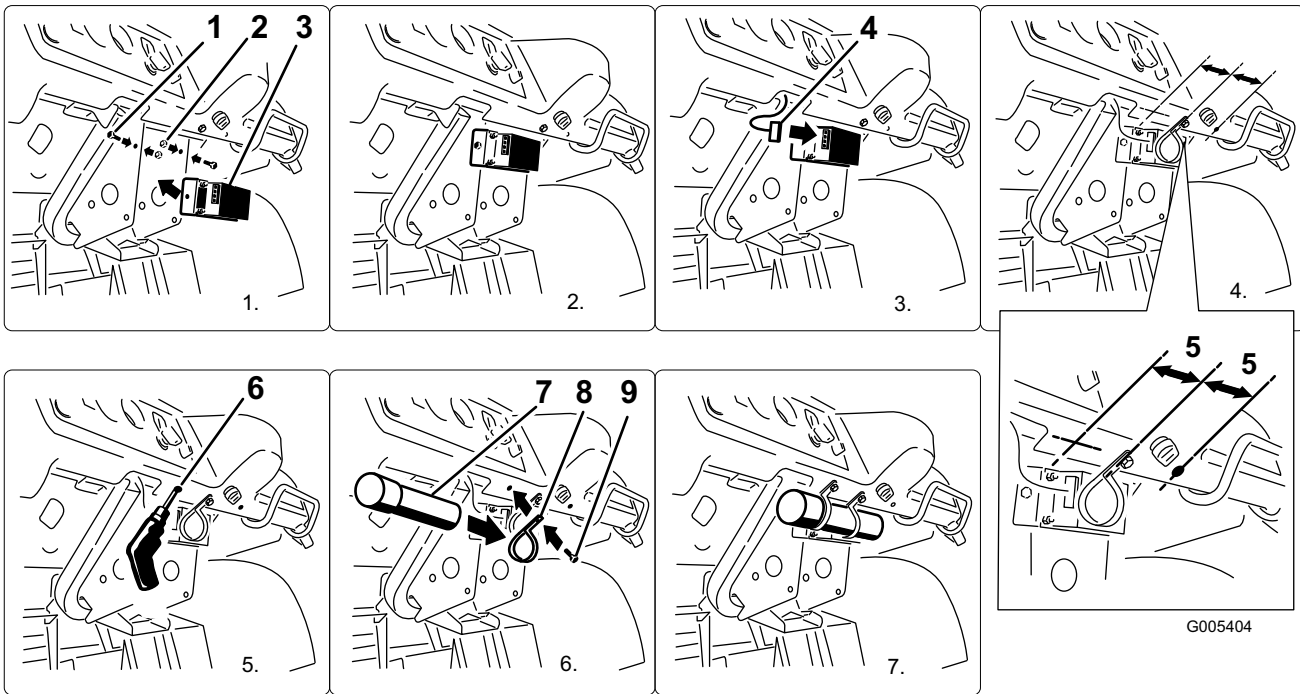

Figure 11
3. Install the 12V converter assembly as shown in Figure 11 over bolts and outside of the pedal box assembly. Tighten bolts to secure the converter.
5. Route the flat connector down through the pedal box to the 12V converter assembly mounted previously. Connect the flat connect to the 12V converter (Figure 11).
- A. Measure 5 inches left from the center line of the left side hole. Mark that location. Pilot drill a 3/8 inch whole through the dash. Enlarge the hole to a 3/8 inch diameter (Figure 11).
- B. Install the *Operator's Manual* tube and R-clamps to the dash at new location. Use the fasteners removed previously to secure the assembly (Figure 11).